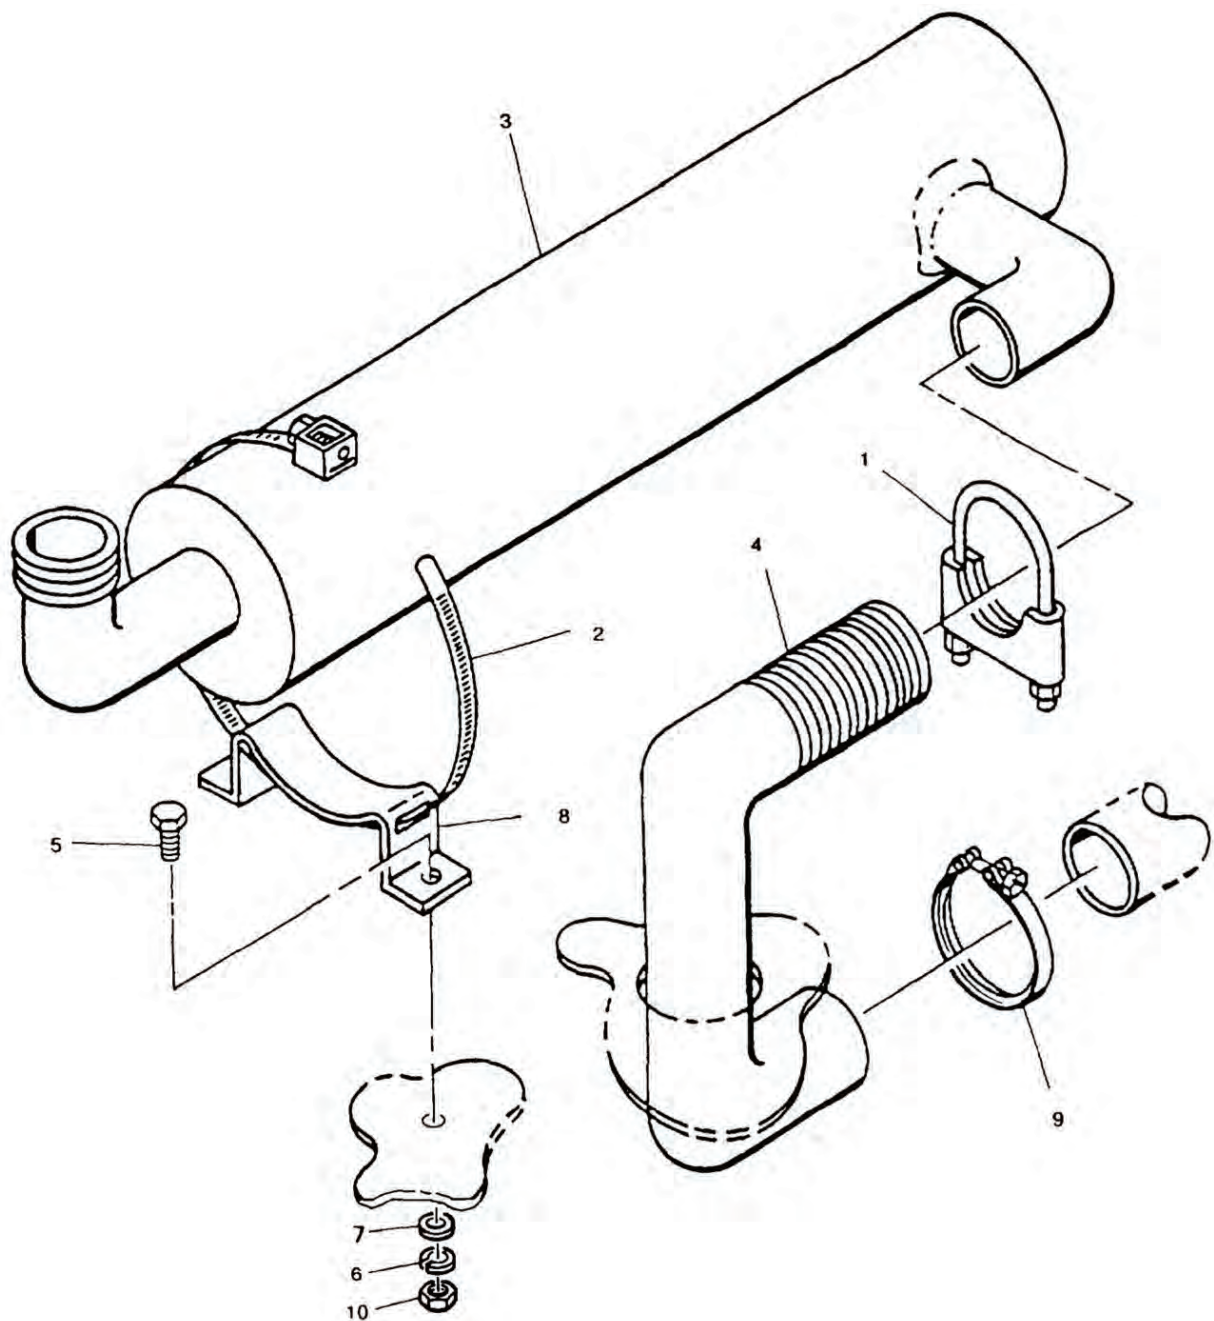

Figure 1. Muffler and Exhaust Pipe.
3. Repaint surface in accordance with TM 43-0139. (F) Refer to applicable directives.
4. Replace missing or damaged cage nuts (WP 0067, Figure 1, Item 43).
1. Install latch plate (WP 0067, Figure 1, Item 41) on control box bottom (42) with screws (39) and nuts (40).
2. Install relay tracks (38) on control box bottom (42) with screws (36) and nuts (37).
3. Install bracket (35) on control box bottom (42) with screws (34).
3. Inspect muffler (Figure 1, Item 3) and pipe (4) for cracks, excessive corrosion, clogging, and other damage.
3. Loosen nuts and remove clamp (Figure 1, Item 1).
4. Open bands (2) and separate muffler (3) and pipe (4). Remove muffler (3) from generator set.
5. Remove bolts (5), lockwashers (6), washers (7), nuts (10), and muffler supports (8). Discard lockwashers (6).
6. Loosen exhaust pipe clamp (9) at turbocharger outlet.
7. Remove left side air deflector and sufficient hardware securing top housing section panel (WP 0016, Removal) to allow removal of exhaust pipe (4) from generator set.
1. Install muffler supports (Figure 1, Item 8) with bolts (5), new lockwashers (6), washers (7) and nuts (10).
2. Install pipe (4) with clamp (9). Do not tighten clamp (9).
4. Couple muffler (3) to exhaust adapter (12) with clamp (1). Do not tighten clamp.
5. Secure muffler (3) to supports (8) with bands (2).
6. Tighten clamp (1).
WP 0073, Figure 1, Item 1